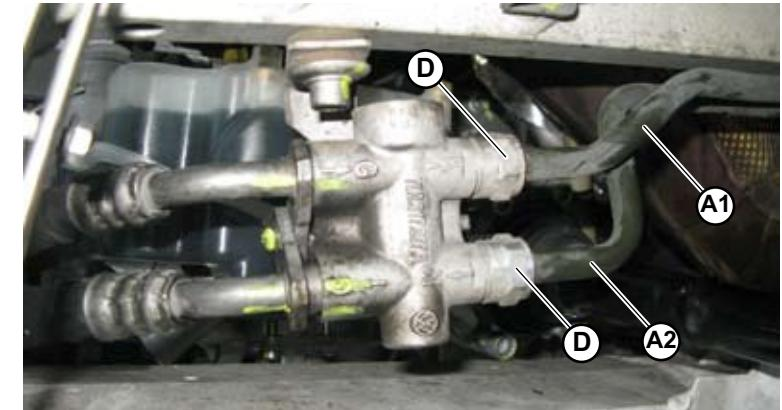

Fig.6
3. Unscrew the nuts (D-Fig.6) and disconnect the front **A1** and **A2** pipes from the temperature regulator.